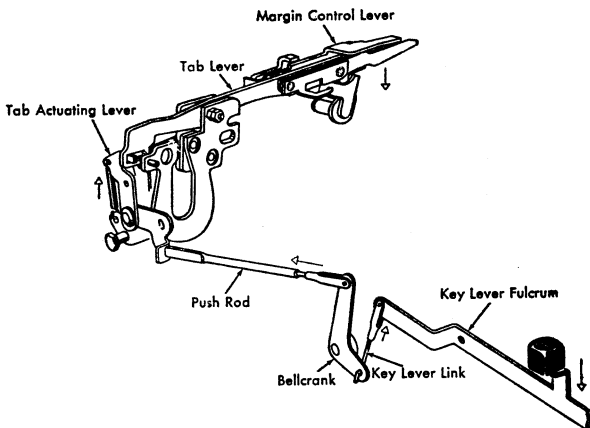

Figure 13. Margin Release
2. MARGIN RELEASE KEY LEVER LINK. Adjust as long as possible and still prevent the bellcrank from rubbing on the power roll (Figure 13). NOTE: Be sure machine is turned off during this adjustment.
3. PUSH ROD. Adjust so that when the margin release key lever is fully depressed, the margin control lever will safely clear the bottom of the margin stop (Figure 13). The push rod clevis may be spot-welded to the push rod. In this case, enough motion for margin release must be obtained from adjustment of the margin release key lever link.